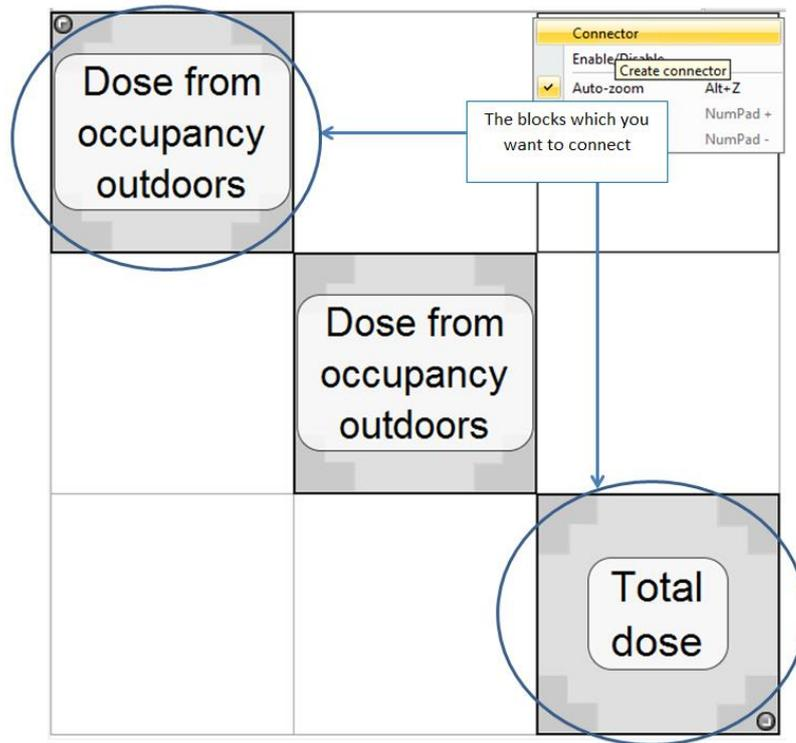

FIG 10. Connecting modules using “connector” blocks for data exchanges.
8. To create a new “connector” block, right-click on the off-diagonal element of the matrix window projected (horizontally, vertically) on blocks that need to be connected, and chose *Connector* from the pop-up menu (see FIG 10).